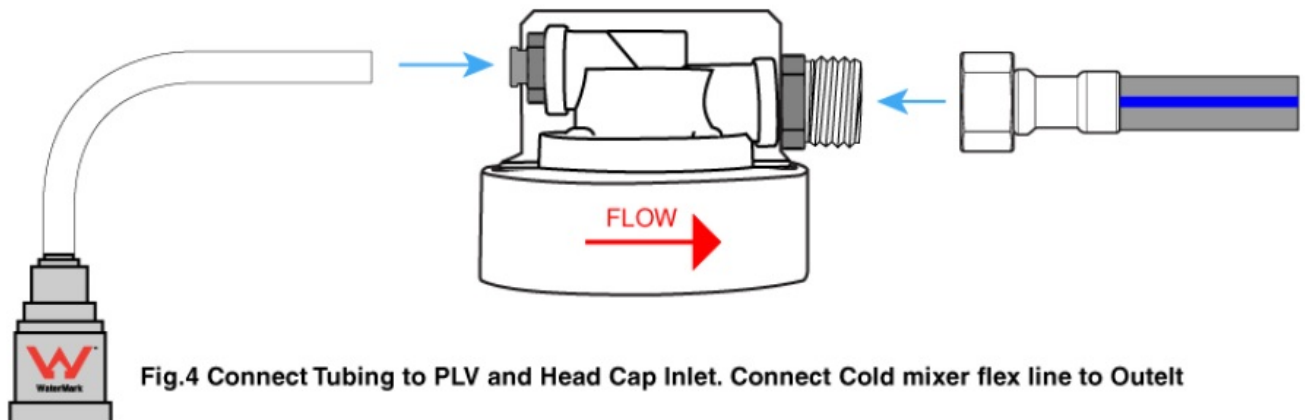

Fig.4 Connect Tubing to PLV and Head Cap Inlet. Connect Cold mixer flex line to Outelt
3. Measure & cut the required length of 3/8" tubing to fit between the PLV and the Head Cap Inlet. Firmly insert the tubing into the PLV and the Head Cap Inlet. Re-Connect the Cold-Water Flex Hose from the mixer tap to the Stainless-Steel Fitting installed in the Head Cap Outlet as shown in Fig.4.